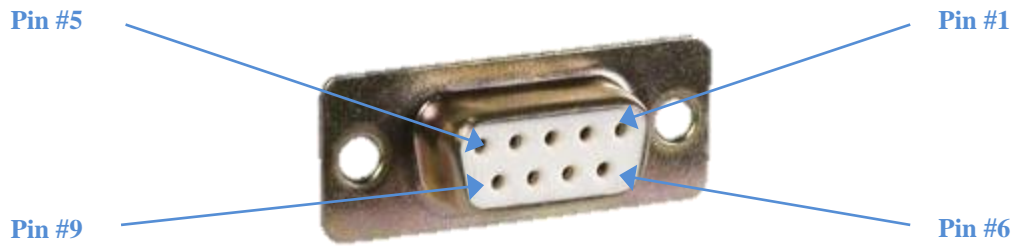

Figure 5: D-SUB 9-pin connector pin numbering
- **Y-Cable CT-V (Figure 6):** one side of the cable is terminated with a SUB-D connector for the direct connection of a DCCT CT-Series with voltage output (CT-xx00V). The other side is terminated with one connector that fits in the output DC connector of the PS1215 and one BNC connector for the reading of the output voltage that is fed from the DCCT Voltage Output. The SUB-D pin-out is shown in **Figure 5** and **Table 3**.
- **Figure 7):** one side of the cable is terminated with a SUB-D connector for the direct connection of a DCCT CT-Series with current output (CT-xx00). The other side is terminated with one connector that fits in the Output DC Connector of the PS1215 and two “banana” plugs to feed the customer external burden resistor. The SUB-D pin-out is shown in **Figure 5** and **Table 3**.